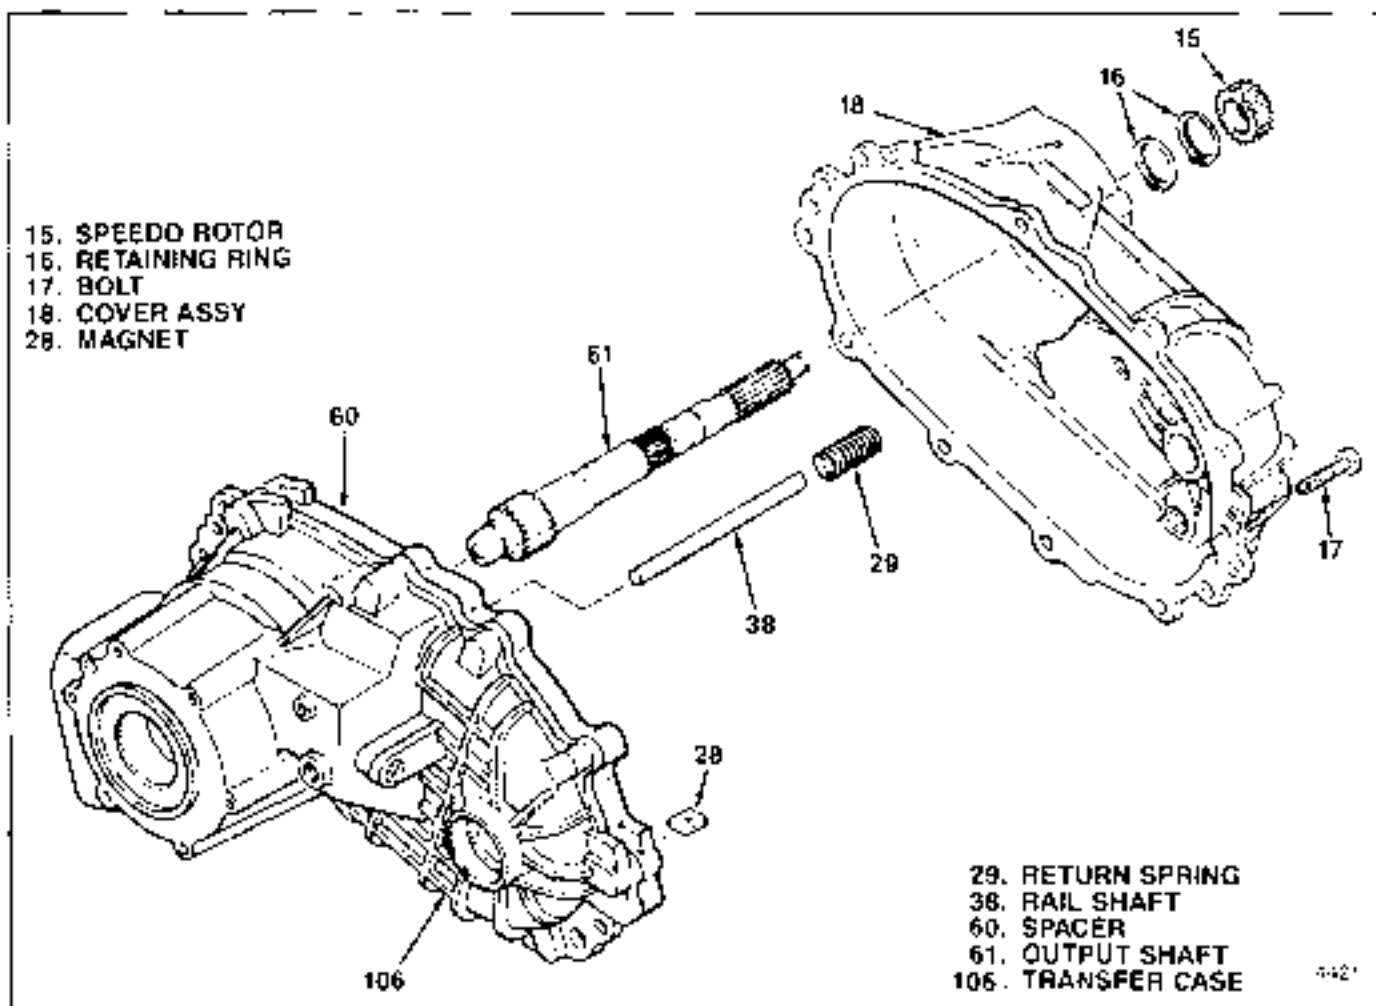

Figure 5-14. Cover Installation
Assembly of transfer case, at least through assembly of cover assembly (19, figure 5-14) and bolts (15) must be completed promptly, before sealant applied at step g above cures.
c. Install roller bearing (21) and secure with retaining ring (20).
d. Press in ball bearing (19) to bottom in cover (26).
e. Connect terminal connector (27) to end of wire on clutch coil assembly (23).
**5-14. INSTALLING COVER ASSEMBLY.** Install cover assembly as completed in paragraph 5-13 on transfer case as follows (see figure 5-14):
a. Install return spring (29) over rail shaft (38) in transfer case to rest on shift fork.